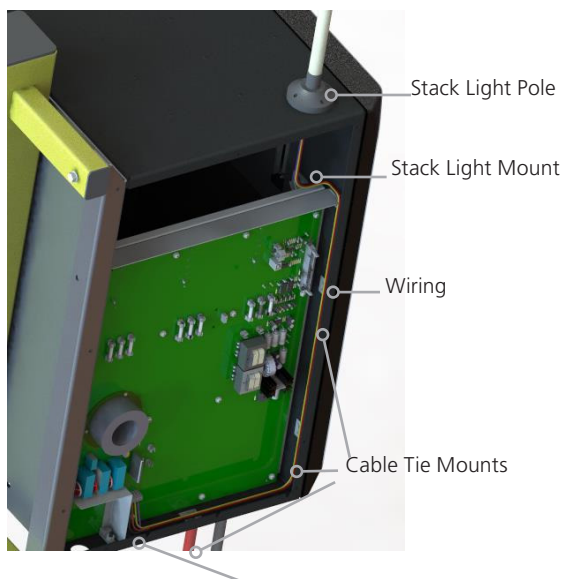

Figure 11: Stack Light Mounting and Wiring
3. Use the crimp terminals (P/N# 05358) to splice the RED, YELLOW, VIOLET and BLACK wires to the stack light lead wires, as shown in Figure 11.